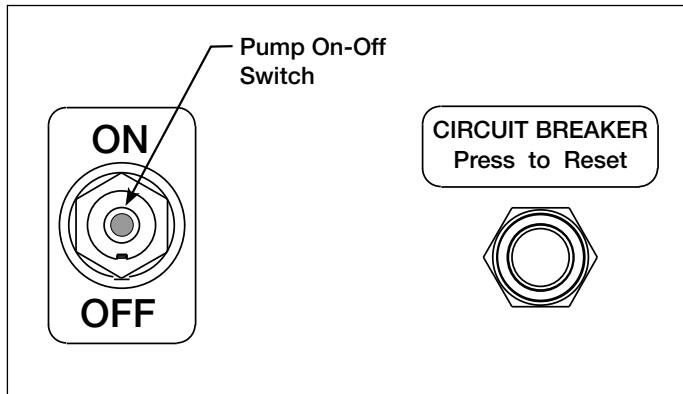

Figure 7, Pump Control Panel
5.1 Pump On-Off Switch (See Figure 7)
4. Connect unit to power. Move the pump on-off switch to ON. See Figure 7.